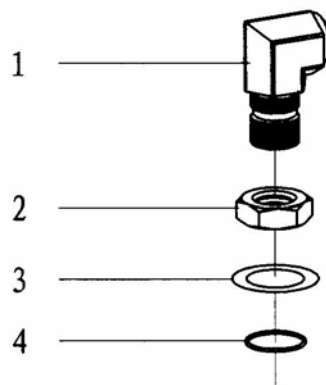

Fig. 18
15. Bend sub (NPT1 1/4-1 5/8-12UN) (**Fig18, Table 15**)